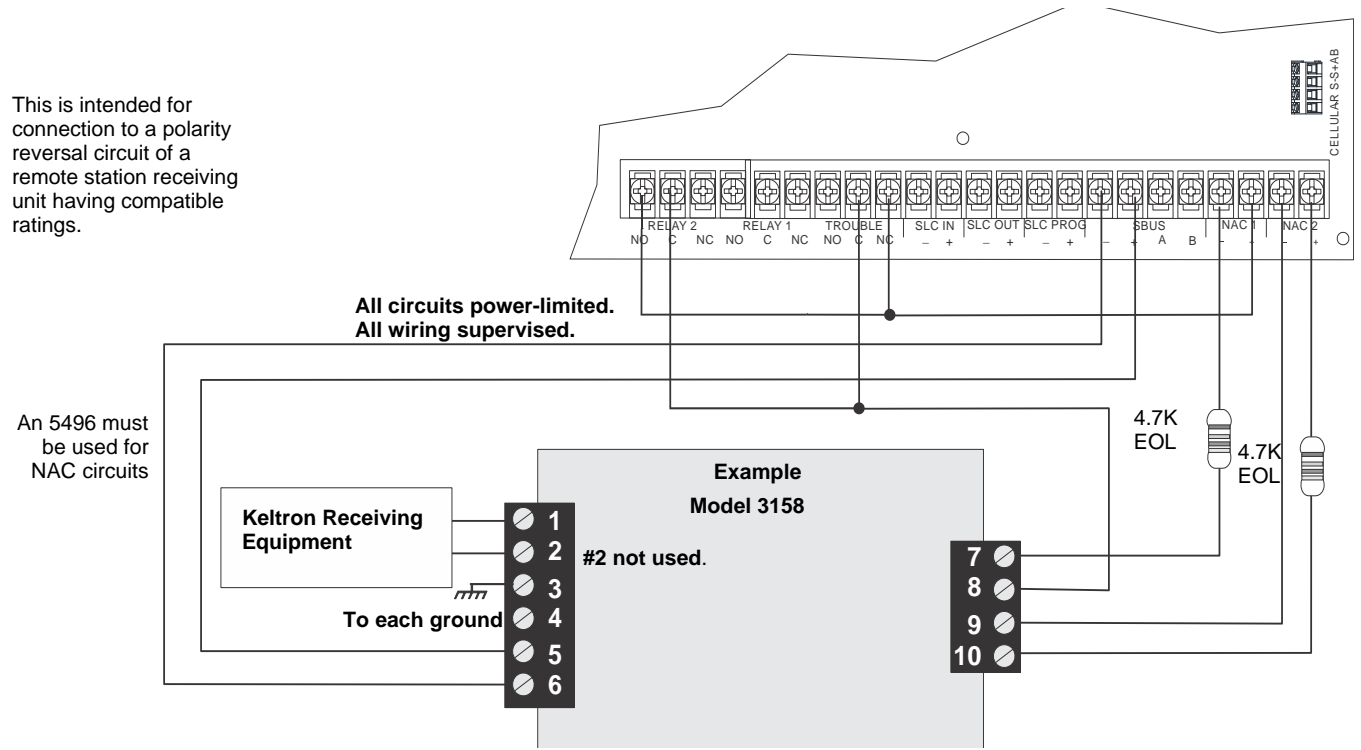

Figure 4.38 Keltron 3158 Connection to Control Panel
1. Wire the 3158 to the control panel as shown in the connection list and Figure 4.38.